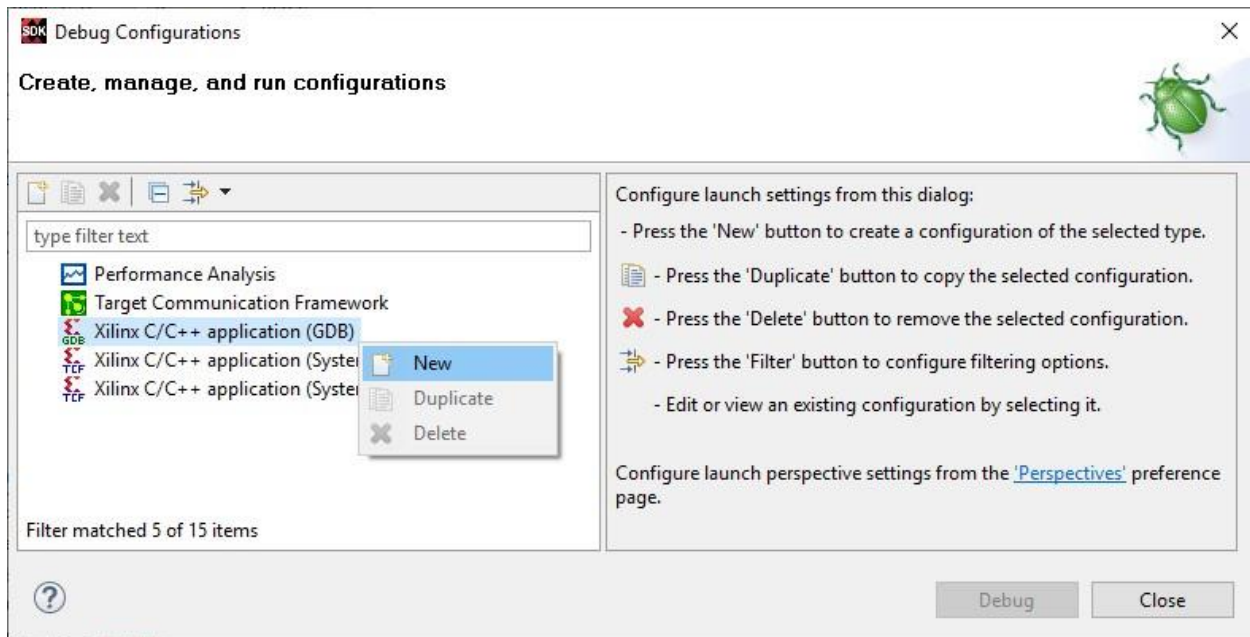

Figure 30: Debug Configurations dialog box.
5. In the Debug Configurations dialog box, right-click **Xilinx C/C++ application (GDB)** and select **New** (Figure 30).